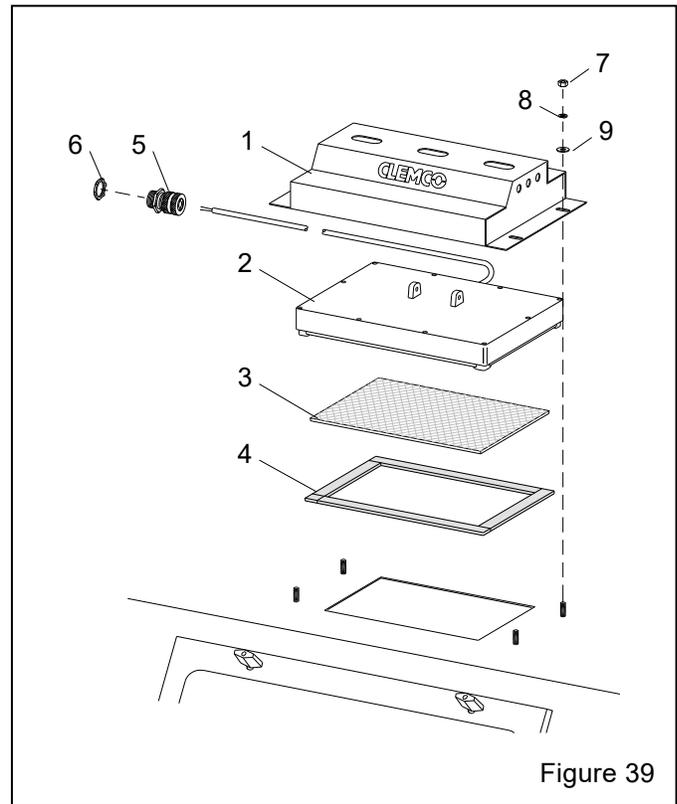

Figure 39
9.8 LED Light Assembly – Figure 39